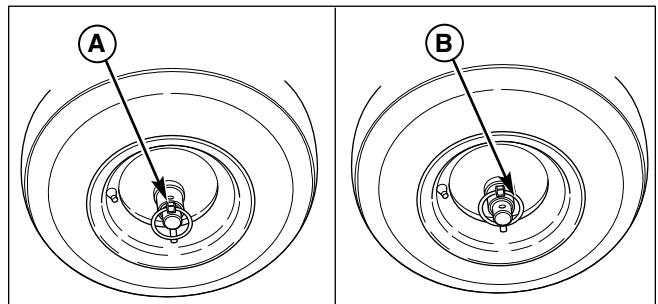

Figure 11. Traction Drive Lock
For easy turning when pushing the snowthrower, disengage the right wheel using the traction lock pin (see Figure 11).
2. To **DISENGAGE** the traction drive lock, insert the Traction Lock Pin (A, Figure 11) through the outer hole in the right axle. The unit can now be pushed with minimal resistance.
3. To **ENGAGE** the traction drive lock, align the hole in the hub with the inner hole in the axle, and install the Traction Lock Pin (B).